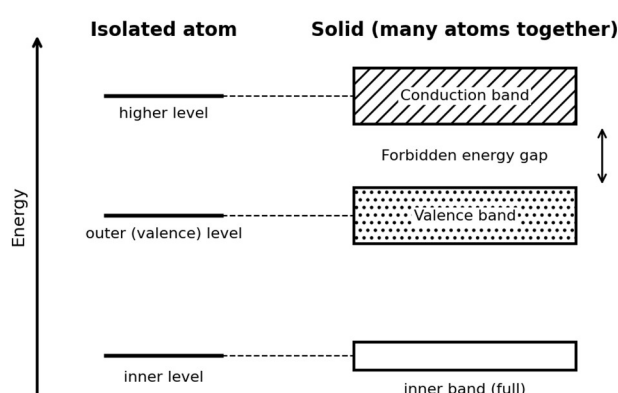

Fig. 2 Formation of energy bands in a solid
2. **Formation of bands:** In a solid, a very large number of atoms are very close to each other. Their energy levels affect each other, so each energy level spreads out into a band of many closely spaced levels (Fig. 2).